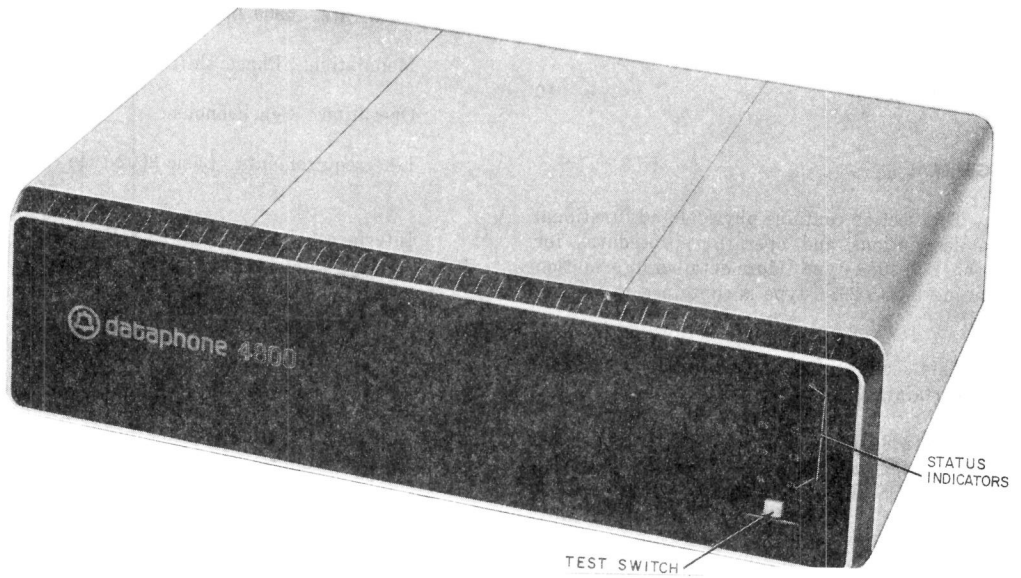

Fig. 2—Front View of DS 208A-L1
**1.04** Data sets 208A-L1A and 208A-L1B have self-test capabilities that make possible data set and data channel tests without external test equipment. DS 208A-L1 (Fig. 2) may be converted to DS 208A-L1A by removing CP HG9 and replacing it with CP HG23. This CP requires a different front cover (840807655) for the data set.